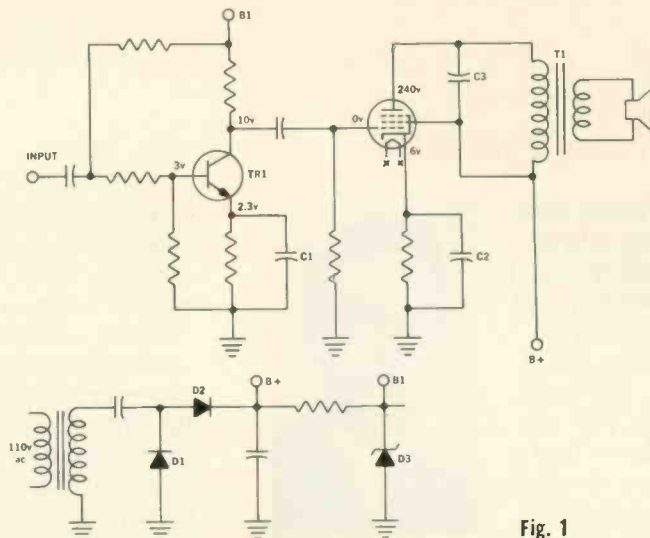

Fig. 1
1. The power supply in Fig. 1 employs a (half wave/full wave) rectifier circuit?
2. In Fig. 1, regulated voltage B1 has the same value as the zener voltage of diode D3. (True/False)
3. What is capacitor C3 used for in Fig. 1?
4. In Fig. 1, TR1 is a silicon, NPN transistor. (True/False)